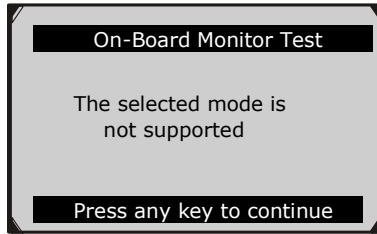

Figure 6.29
- If the vehicle under test does not support the mode, an advisory message will be displayed on the screen (Figure 6.29).